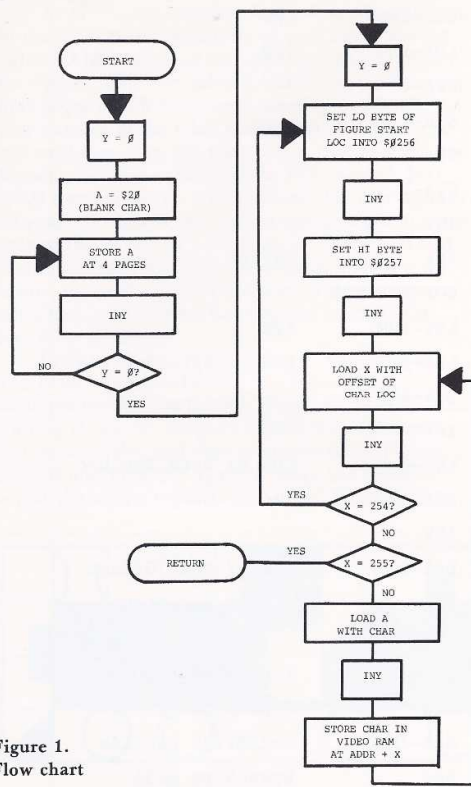

Figure 1.
Looking at the flow chart (Figure 1), you can see that the first data loaded is the lo byte, then the hi byte, of the screen location. This information is in the table for this particular game, and is deposited within the program to give a start location on the screen for the first graphics figure. Next, the offset of the first character is loaded into the X register, and a check is made to see if the figure is ended. I have selected \$FE (254) as a signal that part of the figure is completed, and \$FF (255) for the end of the routine. If this data is neither, a graphics symbol will be loaded into the accumulator. This symbol is then deposited into the video refresh memory at the location previously loaded plus the offset in the X register.